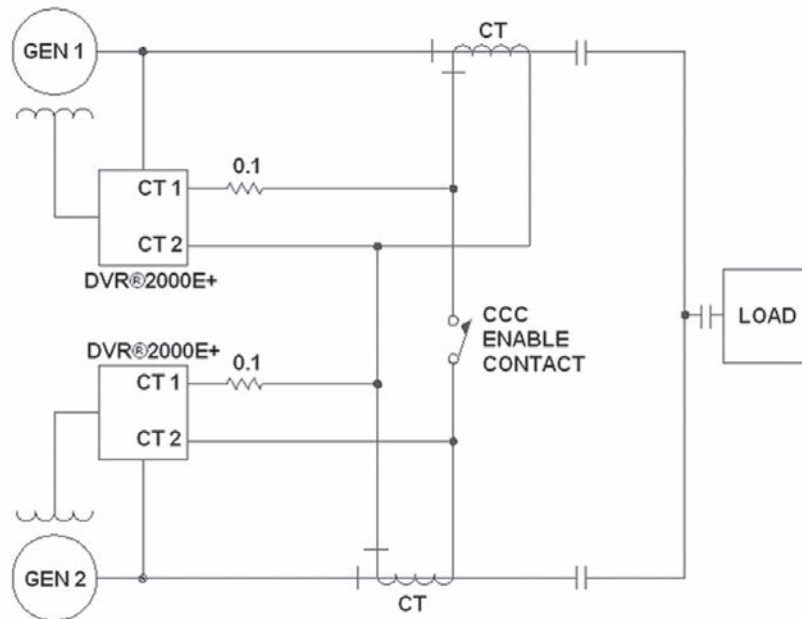

Figure 5-12. Cross-Current (Reactive Differential) Connections for Two Generators
Figures 5-12 and 5-13 illustrate how the regulators can be interconnected for use in Cross-Current (Reactive Differential) applications. When operating in Cross-Current mode, attention must be paid to the use of the burden resistor shown in Figures 5-12 and 5-13. The burden resistor should have a value of approximately 10 times the cross current loop resistance for proper differential operation. The value of 0.1 ohm is a suggested value. The volt-ampere (VA) capacity of the paralleling current transformers should be considered when sizing the burden resistor.